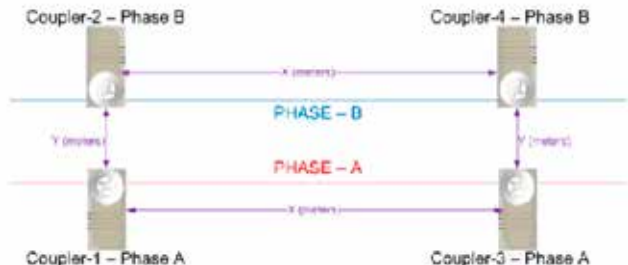

Figure I.6
- The location of the couplers in the circuit (relative to each other) must be equidistant in all directions (see Figure I.6)